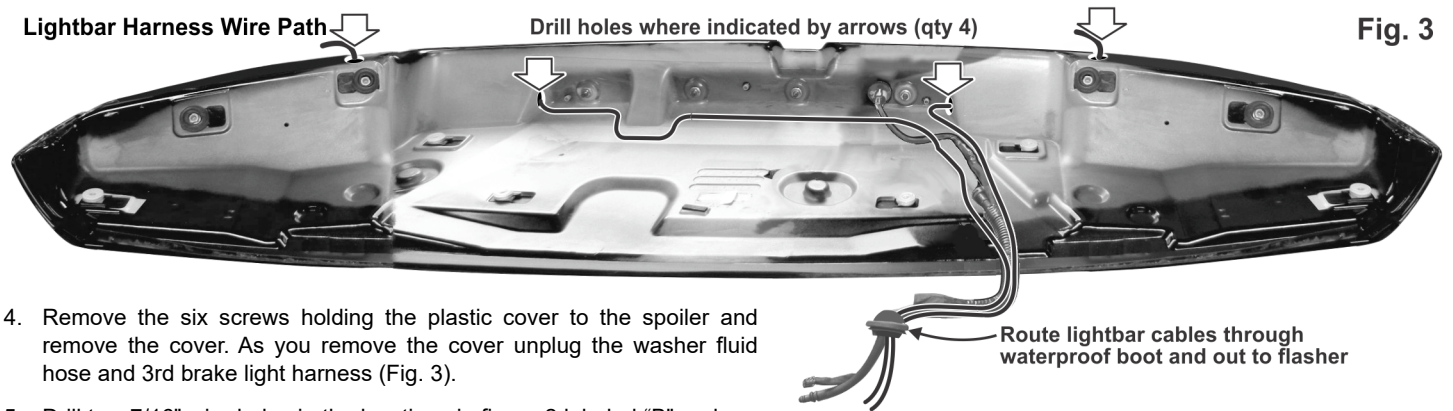

Fig. 3
2. Mount the rubber trim to each mounting bracket (Fig. 3). Position the passenger side of the lightbar in the exact mounting location with the rubber trim making good contact with the window. Clearly mark the two mounting hole locations onto the spoiler and remove the bracket. Repeat for the driver side of the vehicle.
4. Remove the six screws holding the plastic cover to the spoiler and remove the cover. As you remove the cover unplug the washer fluid hose and 3rd brake light harness (Fig. 3).
8. Run the two lightbar cables through the wire holes you drilled and through the waterproof boot (Fig. 3).